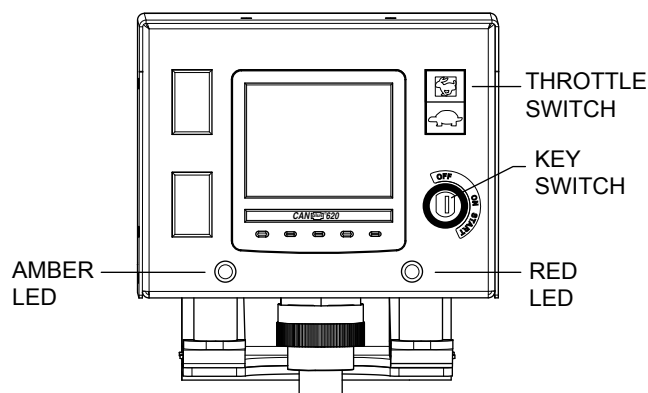

Figure 10. Control Panel
1. Turn on the control panel by turning the key switch to the on position (Figure 10).